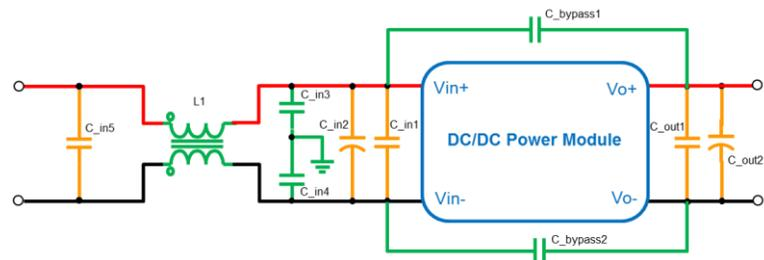

Figure 1 Typical EMI filter structure for DC/DC power modules
Figure 1 shows a typical EMI filter structure containing both DM and CM filtering. Components for DM EMI are drawn in orange and components for CM EMI are in green.
The rest capacitors shown in Figure 1 are for EMI filtering and fast load transients, and they should be a combination of ceramic and tantalum types. These capacitors have low ESR (equivalent series resistance) and low ESL (equivalent series inductance) for good filtering results. The reason of suggesting a combination of ceramic and other types of capacitors is because the extremely low ERS of the ceramic capacitors, when no other type of relatively higher ERS capacitors present, could cause instability of some power modules.
The single-stage filter in Figure 1 is generally good for power modules below 150W. For
- ✧ Use short paths and minimize loops for capacitor branches in the filter to avoid the trace impedance defeating the purpose of low impedance of the high frequency capacitors. Therefore C_{in1} and C_{out1} in Figure 1 should be placed as close to the power module as possible.